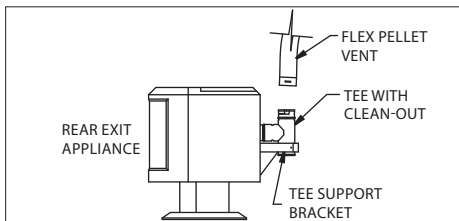

Figure 12
9. If a Tee is necessary to make the connection, as shown in **Figure 12**, the Tee has a removable Clean Out Adapter on its base to enable cleaning. The Tee Support